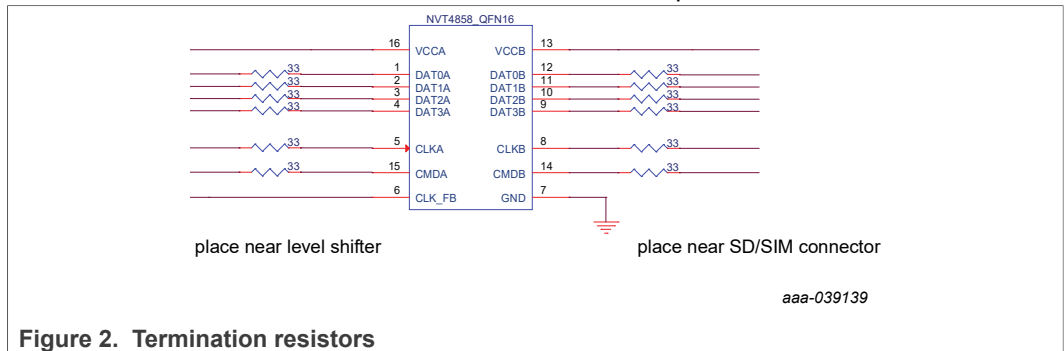

Figure 2. Termination resistors
- Series Termination and Placement – if series termination resistors are to be used, the suggested values are 22 Ω to 33 Ω . The termination resistors on the card side of the level shifter should be placed close to the card socket as shown in Figure 2.